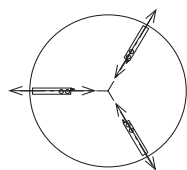

Figure 1
1. Determine where to position the mount and in which direction it should be oriented. The preferred mounting orientation for single ended beams is with the longitudinal axis of the load cell pointing toward the center of the vessel in circular mounting configurations as illustrated in Figures 1 and 2 below.